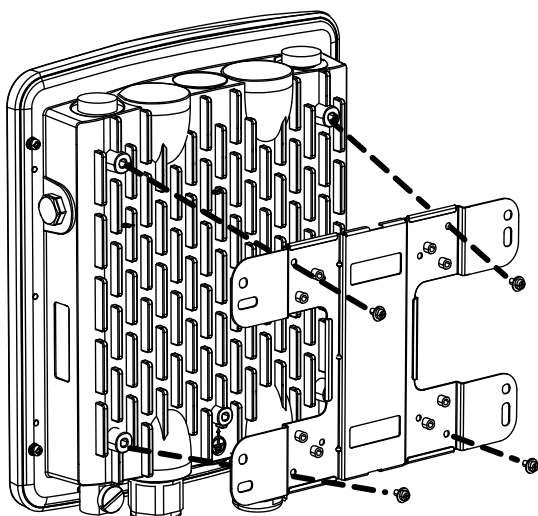

Figure 13: Mounting the base plate
2. Depending on the orientation of the pole you wish to install the AP onto (horizontal or vertical), attach the pole mounting bracket to the mounting base plate accordingly using the screws. Refer to figure 13 for the proper position of the pole mounting bracket for each direction.